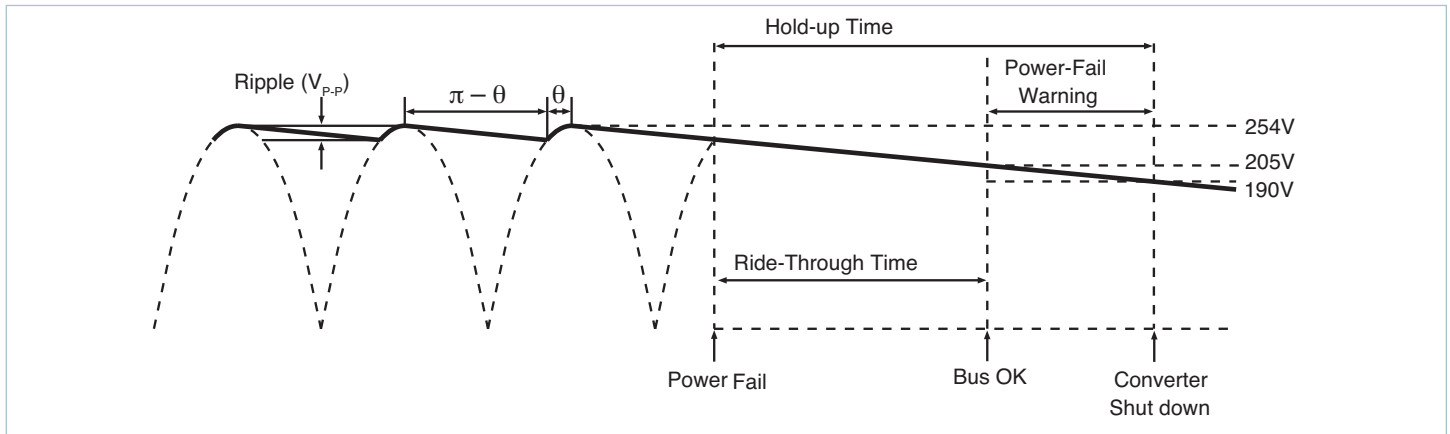
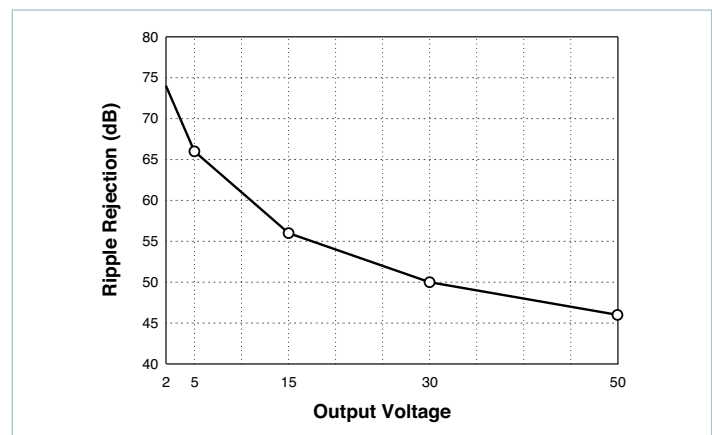

Figure 8.7 — General timing diagram of bus voltage following interruption of the AC mains
Figure 8.11 — Converter ripple rejection vs. output voltage (typical)
**Hold-up Capacitors:** Hold-up capacitor values should be determined according to output bus voltage ripple, power fail hold-up time, and ride-through time. (Figure 8.7)
The power-fail warning time ( $\Delta t$ ) is defined as the interval between Bus OK and converter shut down (EN) as illustrated in Figure 8.7. The Bus OK and Enable thresholds are 205 and 190V, respectively. A simplified relationship between power-fail warning time, operating power, and bus capacitance is obtained by inserting these constants:
For example, a converter whose output is 15V and nominal input is 300V will provide 56dB ripple rejection, i.e., 10Vp-p of input ripple will produce 15mVp-p of output ripple. (Figure 8.11) Equation 3 is again used to determine the required capacitance. In this case,  $V_1$  and  $V_2$  are the instantaneous values of bus voltage at the peaks and valleys (Figure 8.7) of the ripple, respectively. The capacitors must hold up the bus voltage for the time interval ( $\Delta t$ ) between peaks of the rectified line as given by:
(Figure 8.7)
Figure 8.11 is used to determine the ripple rejection of the DC-DC converter and indicates a ripple rejection of approximately 60dB for a 12V output. Since the ripple on the bus voltage is 12VAC and the ripple rejection of the converter is 60dB, the output ripple of the converter due to ripple on its input (primarily 120Hz) will be 12mVp-p.